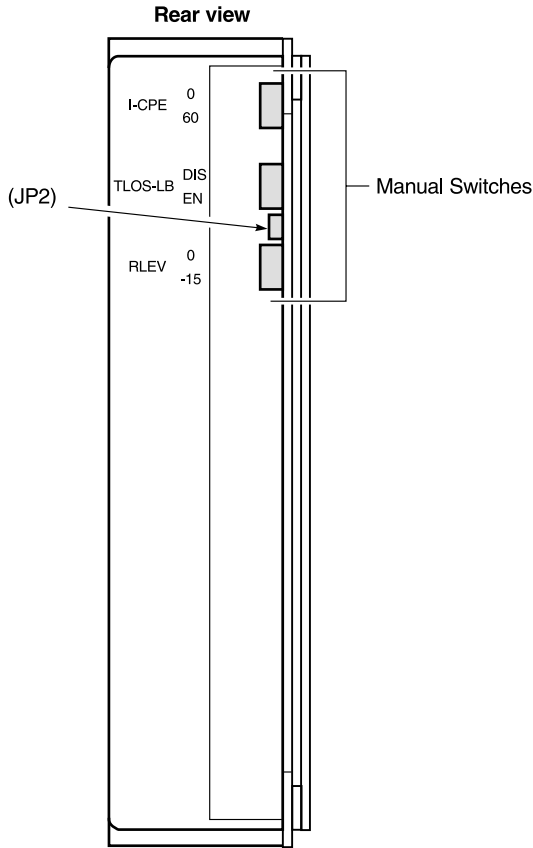

Figure 2. HRU-412 List 7A Rear Panel
The HRU-412 List 7A rear panel features are shown in Figure 2 and described in Table 2.
When locally powered, the HRU-412 can be configured to provide 15 mA (short loop) to 10 mA (long loop) metallic sealing current toward all versions of the HLU over the two HDSL pairs. JP2, shown in Figure 2, allows the sealing current to be enabled or disabled. To enable the sealing current, connect JP2 across both terminals. To disable the sealing current, remove the jumper from the inner terminal and attach it to the outer terminal. The factory default setting is disabled.
- 6 If using an external Network Interface Device (NID), set the I-CPE switch (On the back panel of the HRU-412 List 7A; see Figure 2) to 60 mA and verify the NID has power. Check that voltage across the front panel test points (60 mA MON) measures between 55 mV and 65 mV.